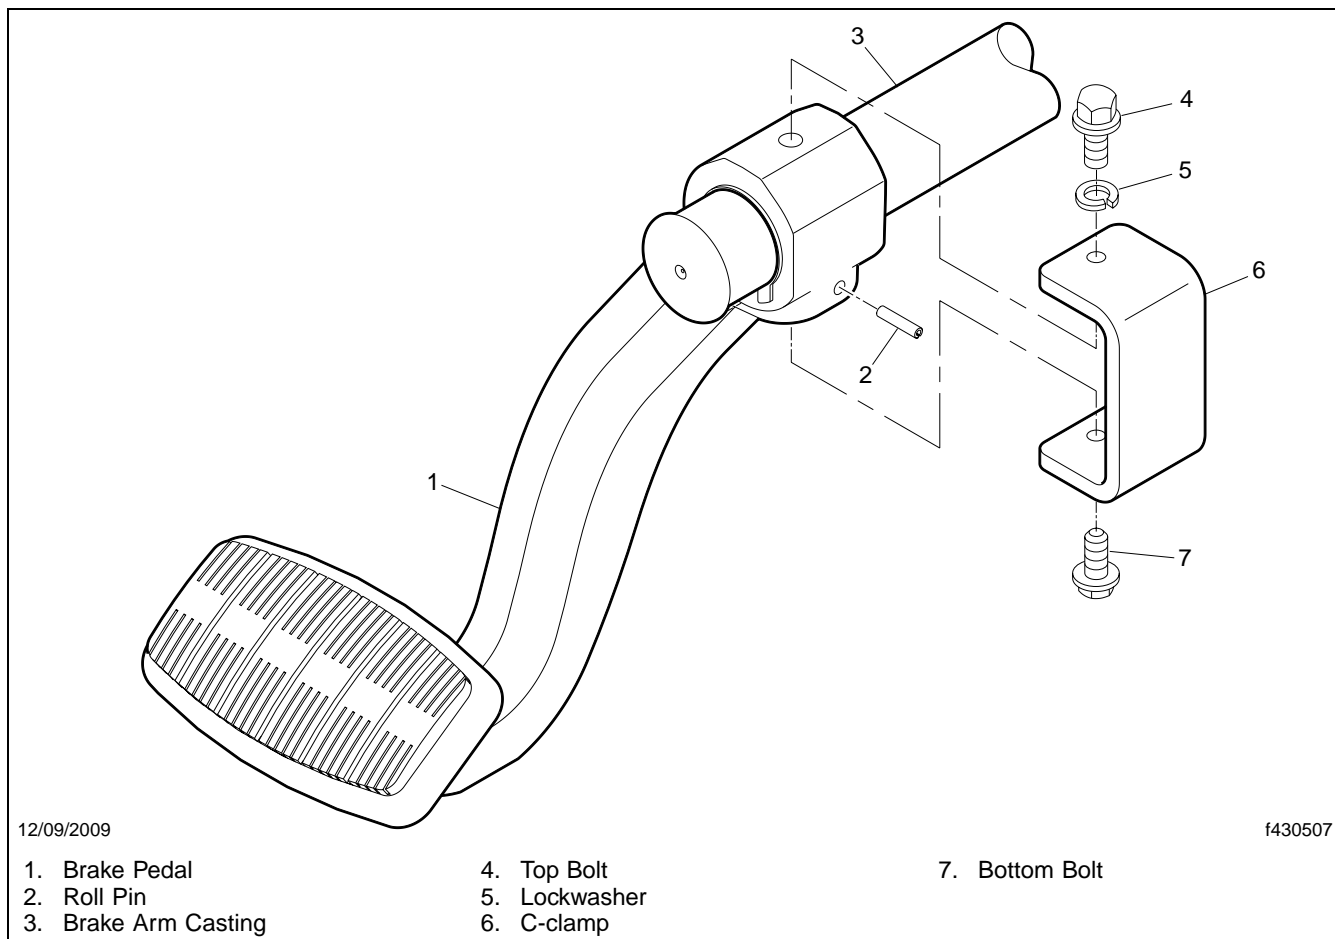

Fig. 1, Adjustable Brake Pedal Assembly
3. Check to see if a C-clamp or roll pin is installed on the adjustable brake pedal. See **Fig. 1**.
1. With the C-clamp in your hand, install the C-clamp assembly in the guide hole at the top of the brake arm casting. Make certain the C-clamp is against the casting. The bolt with the lockwasher should be installed at the top, as shown in **Fig. 1**, Items 4 and 5. Then tighten the bottom bolt 40 ± 5 lbf·in (452 ± 5 N·cm).